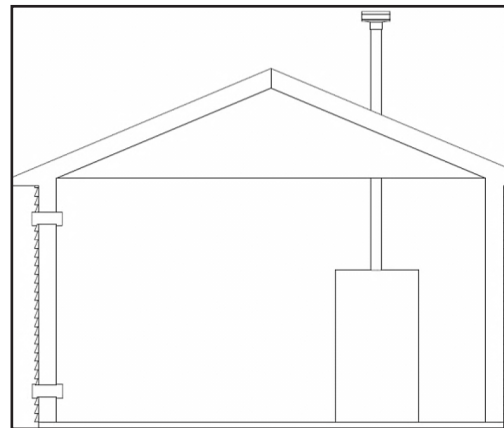

Figure 17 - Combustion Air from Outdoors
1. If air is taken directly from outside the building with no duct, provide two permanent openings to the mechanical room each with a net free area of one square inch per 4000 BTU/hr input. See Figure 17.